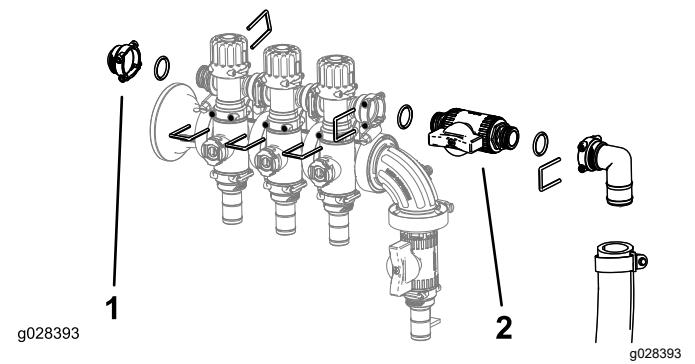

Figure 6
5. Install the bypass-adjustment assembly, female cap, O-rings, shutoff valve, and fitting and hose assembly using the retainers previously removed as shown in Figure 6.